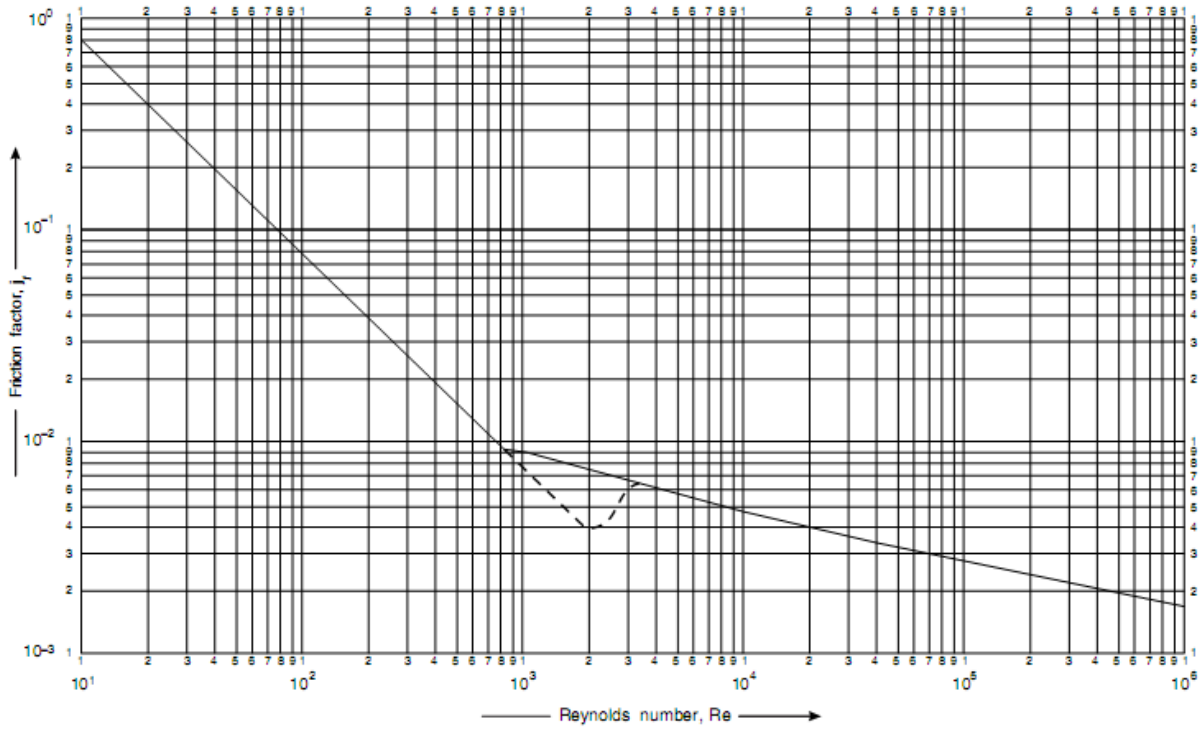

Figure 2 Tube-side friction factors
**Q.8** Light crude oil coming from storage at 400C exchanges heat with kerosene leaving the base of a kerosene side-stripping column at 2000C in a shell and tube heat exchanger (1-6). A pressure drop of 0.8 bar is permissible on both streams. Tube side fluid is light crude oil while shell side fluid is kerosene. Calculate pressure drop on shell side as well as tube side. Neglect viscosity correction on either side. Use Eqns 1 and 2 for calculation of pressure drop on tube and shell side respectively. Refer to Figs. 2 and 3. Justify your answers. [10]